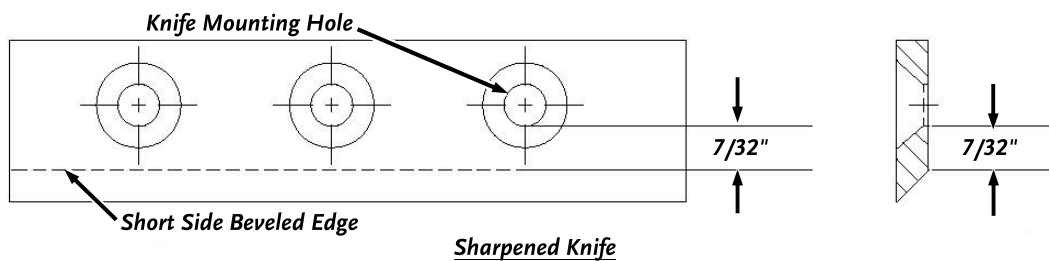

Figure 17
- Once this measurement is below $7/32$ " (**Figure 17**), or if you are unable to remove dents or gouges with these guidelines, replace the Knife.